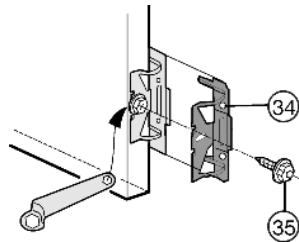

Fig. 13
- ▶ Fasten all mounting brackets Fig. 13 (34) with hex head screws Fig. 13 (35) to the pre-bored holes in the appliance door.